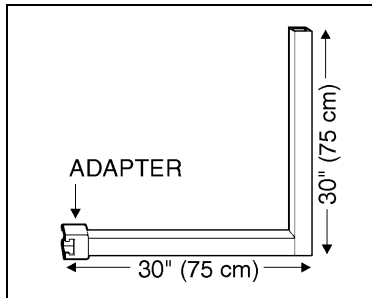

FIGURE 11: TOOL 18096
**Note:** A convenient tool to relieve spring tension can be fabricated with 2 lengths of square tubing approximately 30" (75 cm) long, welded together, and fitted at one end with a cut-out adapter to hold the spring. See figure 11.